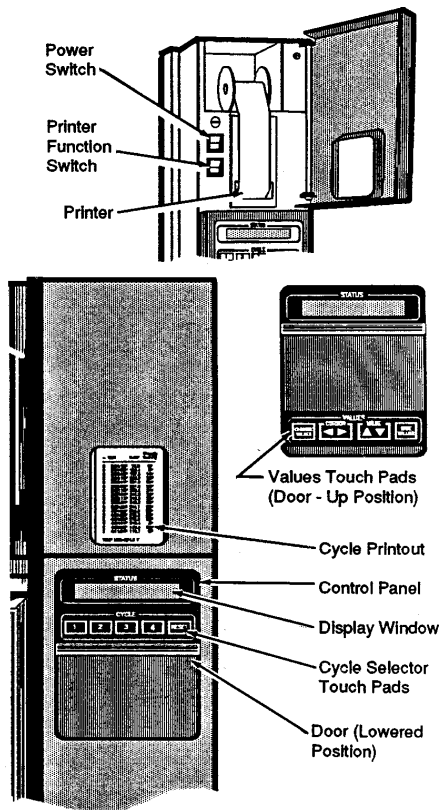

Figure 4-1. Turn Power On
4.1 Automatic Operation: Flash Cycle (See Figure 4-1)